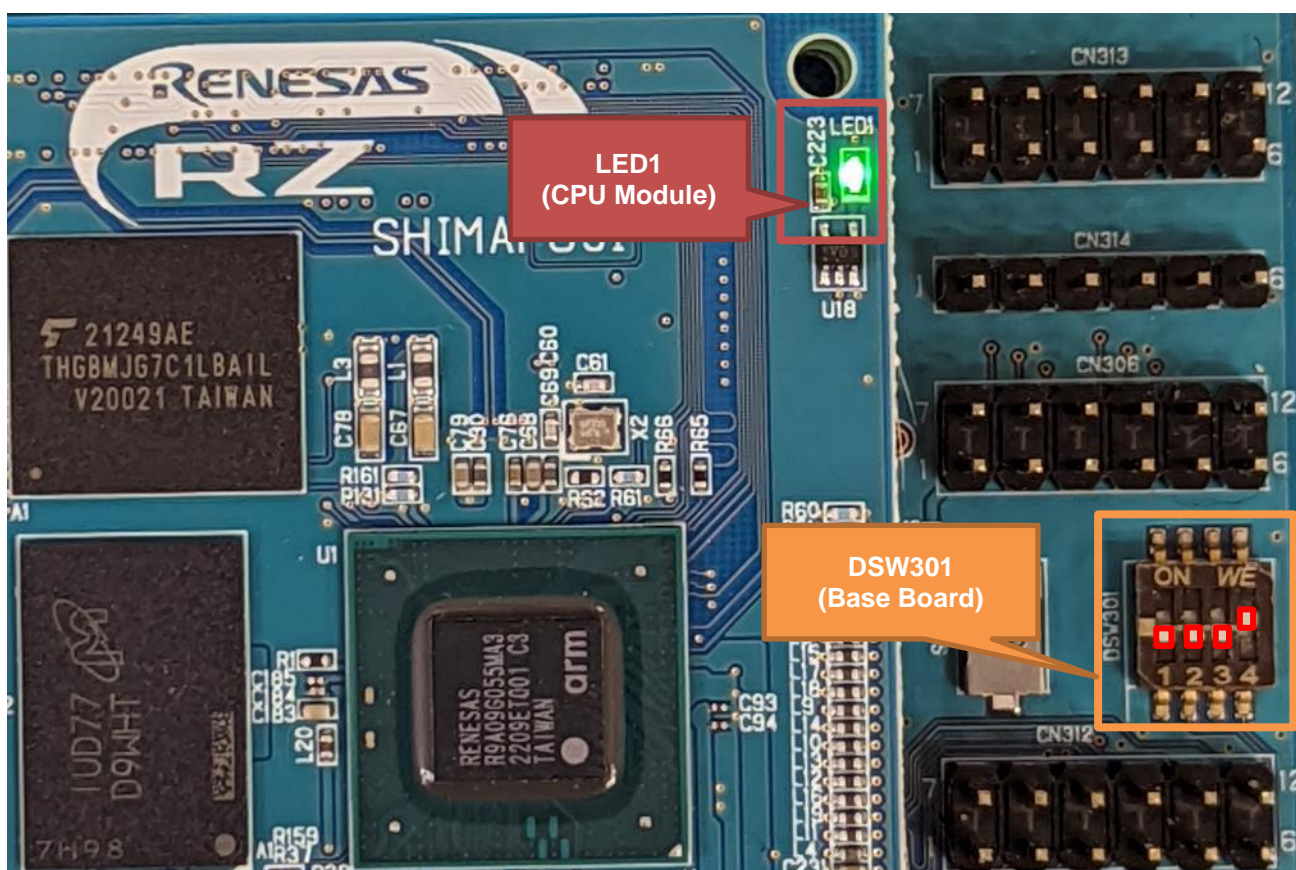

Figure 4-3. LED lights in the forced write mode (RZ/V2MA Board)
- (1) Store the Flash writer binary (B2_intSW.bin) in a micro-SD Card. Note that the micro-SD card should have only one partition formatted with FAT32.
- (2) Insert the micro-SDHC card into the micro-SD card connector (CN1) on the RZ/V2MA Evaluation Board Kit.
- (3) Set the DSW301 on the RZ/V2MA Base Board as shown in Table 4-2 and Figure 4-3 to change the board operation mode to the "forced write mode".